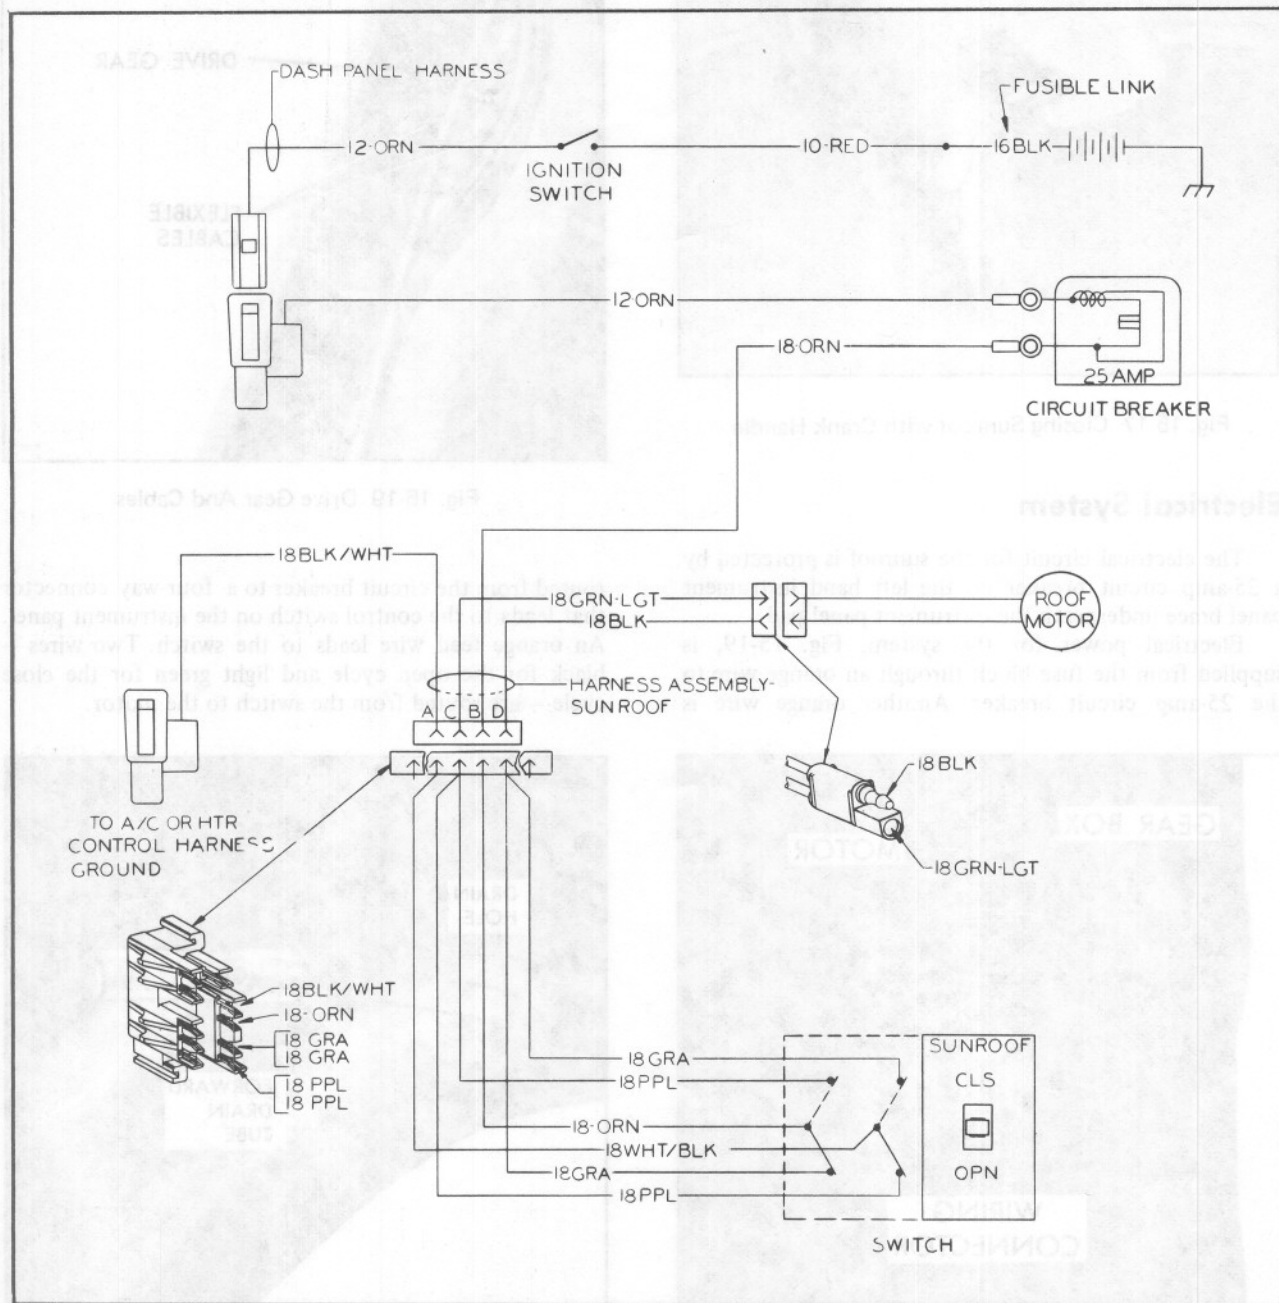

Fig. 15-21 Sunroof Circuit Diagram
2. Motor Fails to Run (Fig. 15-21).